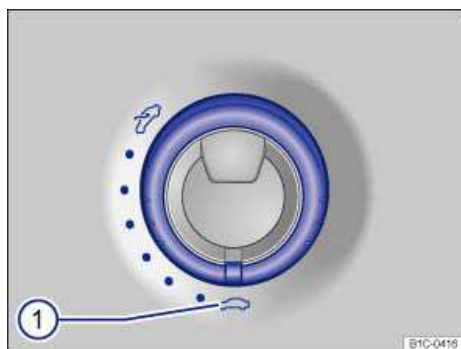

Fig. 34 In the headliner: Sunroof rotary switch.
- The switch must be rotated to the “Closed” position ⇒ fig. 34 \(1\).